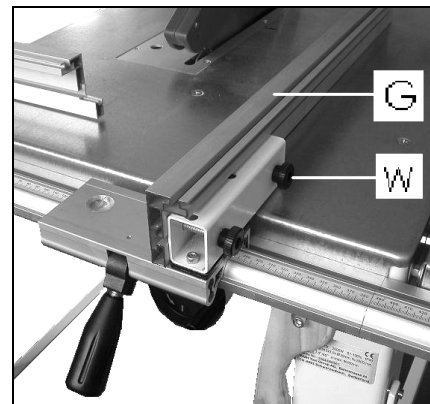

Fig 7
Use 2 bots and wing nuts (W, Fig 7) to attach the aluminium profile (G) to the rip fence body